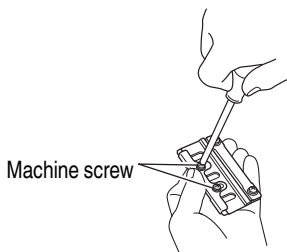

Fig. 33
- (2) Press the turned surface of set plate (A) to the wall surface b while adjusting the blade edge to the wall surface a of the set gauge. Then, tighten them with the 2 screws. (Fig. 33, 34)